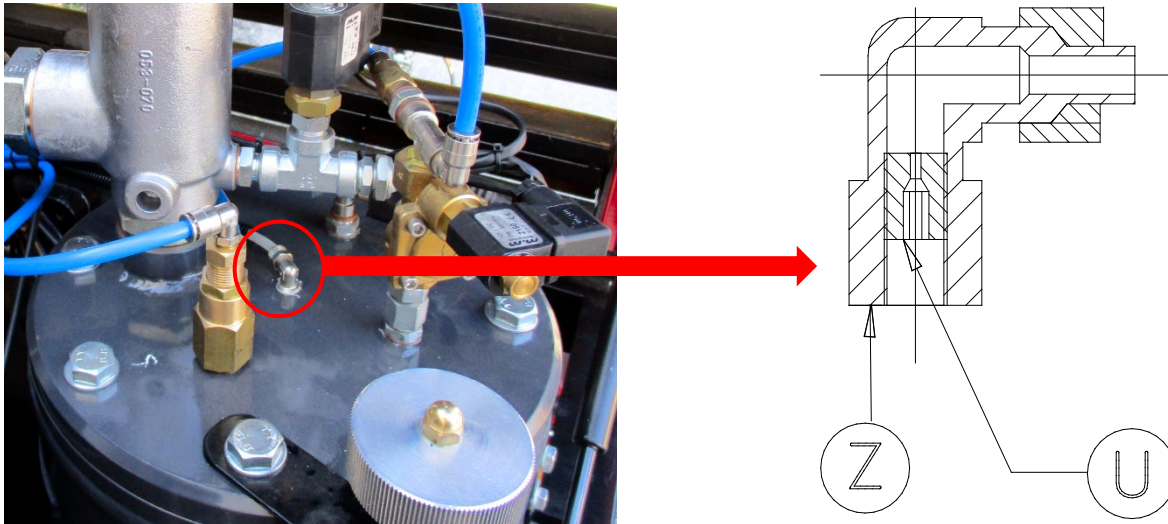

Figure 13.4-4 Nozzle oil recovery
If control and cleaning of the oil recovery nozzle is to be performed. Should you find a leak of oil mist mixed with compressed air, proceed with the following steps. (Figure 13.4-4).
- 1) Unscrew the fitting located at the center of the tank (Letter Z in Figure 13.4-4);
- 2) Inside the 90 degree fitting (Letter Z in Figure 13.4-4) is a nozzle (Letter U in Figure 13.4-4): make sure that its calibrated hole is not blocked (blow with compressed air);